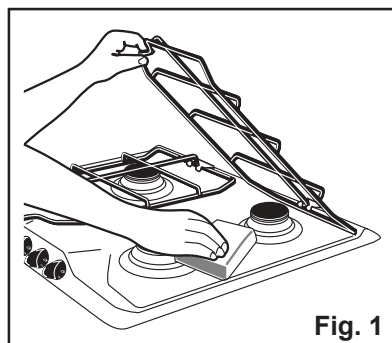

Fig. 1
- Upon ignition, keep the knob pushed down about **5 seconds**. This will allow the "thermocouple" (Fig. 1 - letter D) to be heated and the safety device to be switched off, otherwise the gas supply would be interrupted.
**Model ZGF 642:** The pan supports can be lifted for easier cleaning, as shown in Fig. 1.